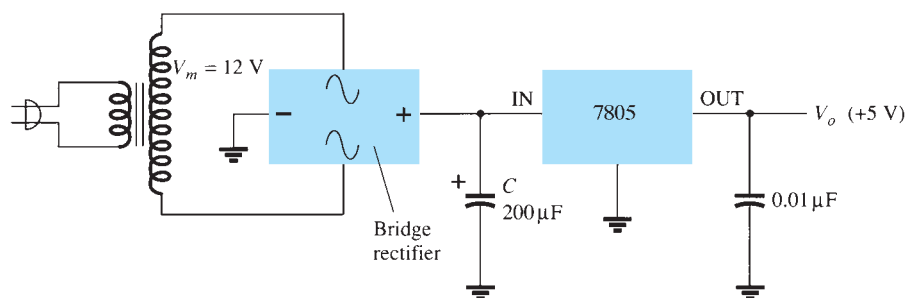

FIG. 15.47
- *25. Determine the maximum value of load current at which regulation is maintained for the circuit of Fig. 15.47.